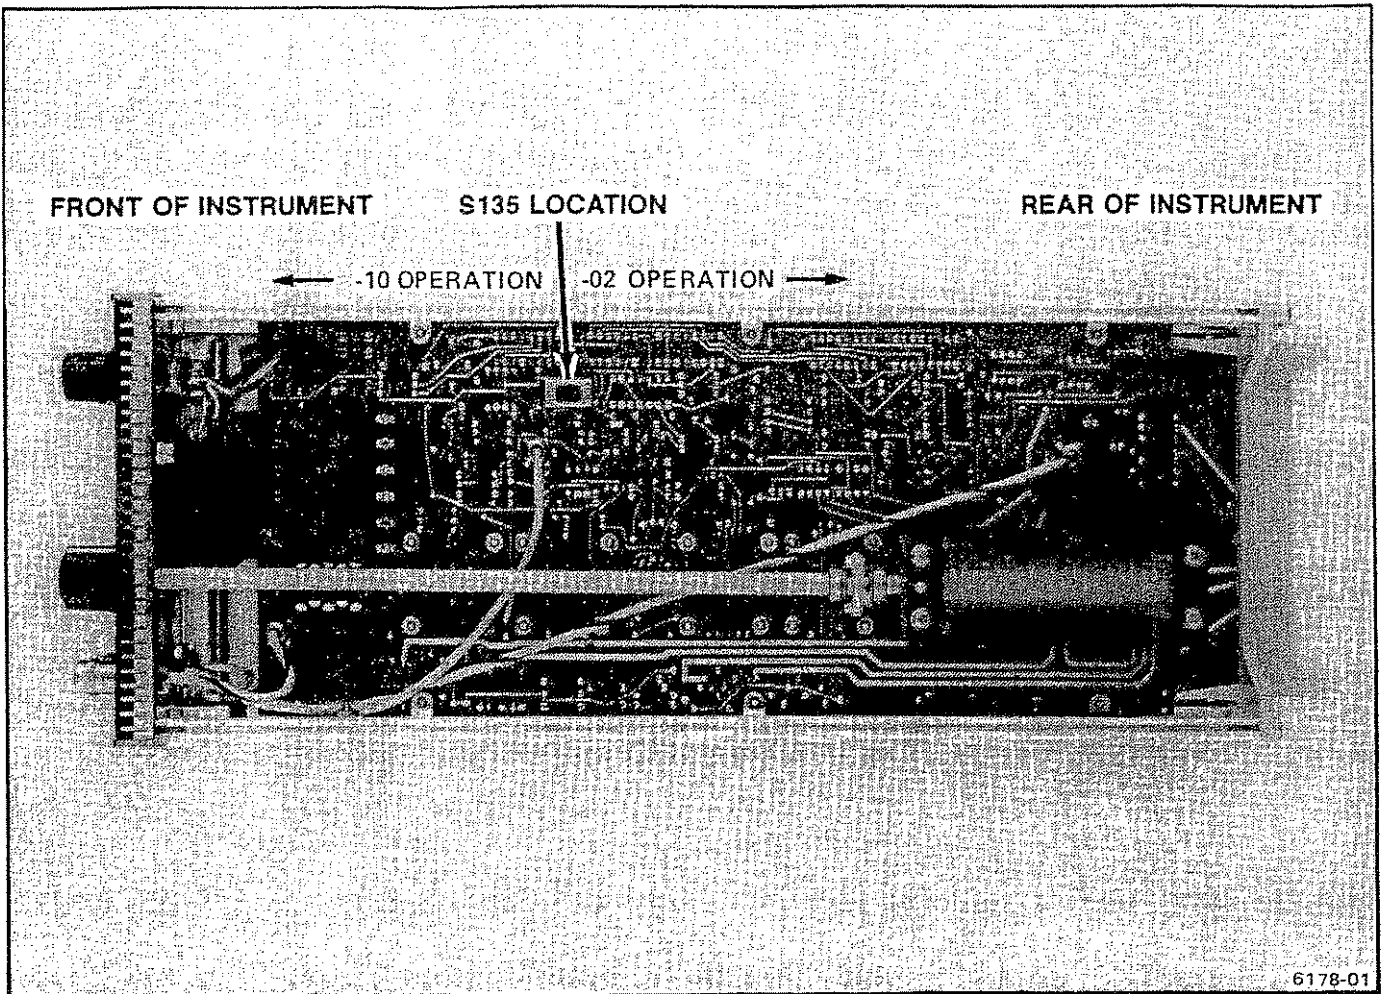
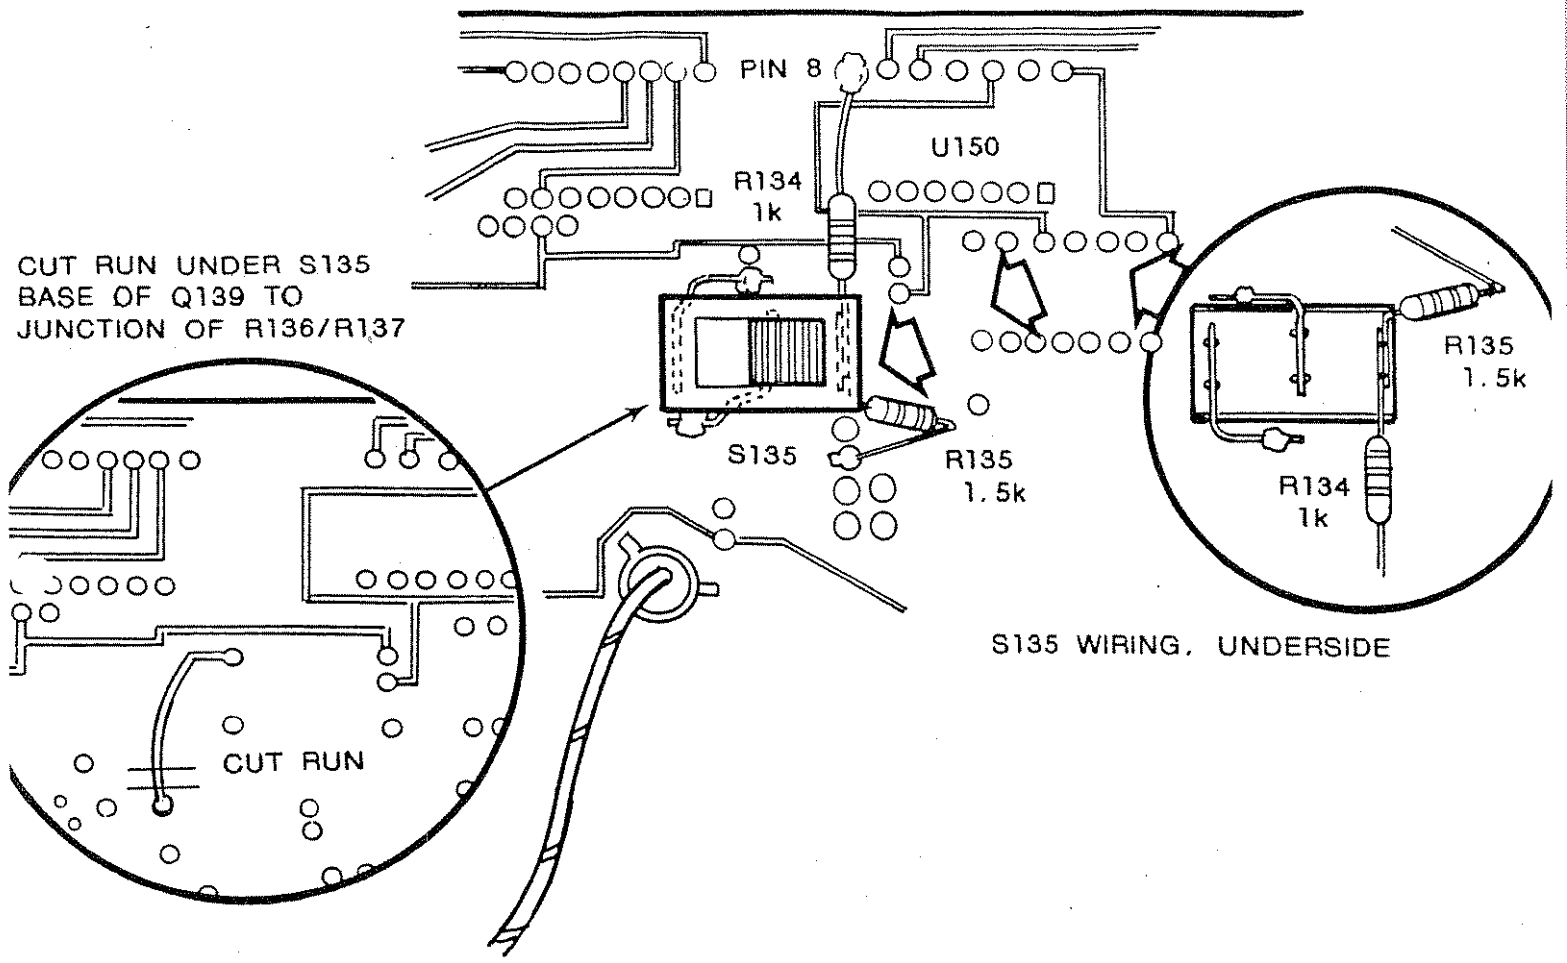

Figure 1-1. 067-0587-10 7612D calibration fixture signal standardizer with right cover removed (S135 location).
Fig. 1 - S135 Installation
The switch (S135) is mounted on the back side of the Main Interface circuit board. When the switch is pushed to the forward position the instrument is functioning as an 067-0587-10 and when the switch is pushed toward the rear of the instrument it functions as an unmodified 067-0587-02. Switch locations are illustrated in figure 1-1.
3. Remove the right side cover (with the front-panel forward). See figure 1-1.
- () 2. Cut the circuit board run (which will be beneath S135 when installed) as shown in Fig. 1.
- () 3. Install S135, R134 and R135 with the included bare wire as shown in Fig. 1 (as an aid to the rough location of the switch, see figure 1-1 in the included, supplementary Service Manual).